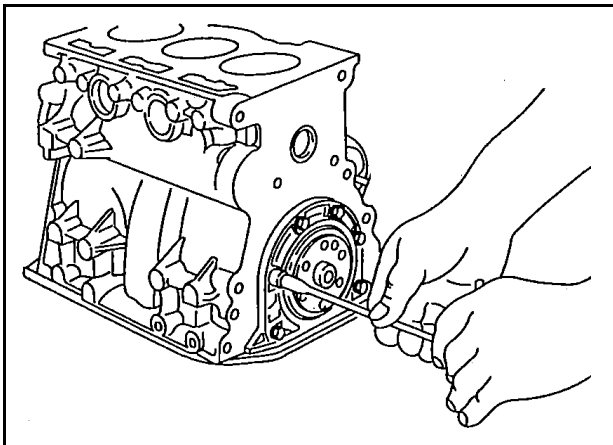

Fig. 8 - Installing Rear Seal Retainer
2. Install gasket and rear seal retainer, Fig. 8.